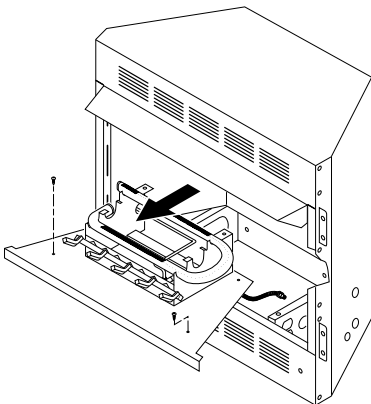

Figure 19 - Removing Log Base Assembly From Fireplace
2. Remove screws that attach log base assembly to fireplace. Carefully lift up log base assembly and remove from fireplace. See Figure 19.